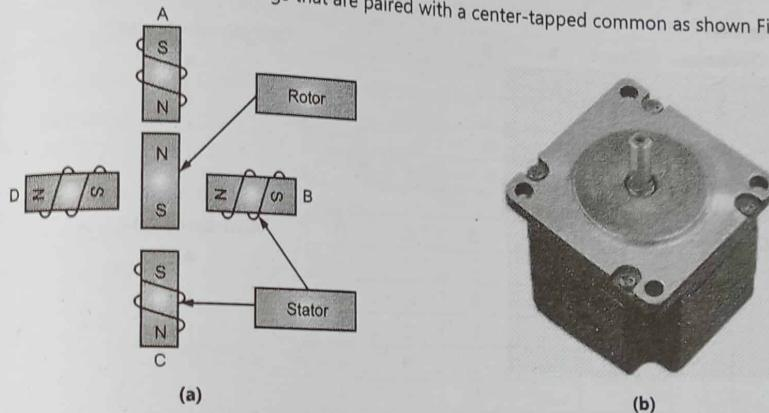

Fig. 4.14: Stepper motor
- Stepper motor have a permanent magnet rotor (called as shaft) surrounded by a stator as shown in Fig. 4.14.
- It has 4 stator windings that are paired with a center-tapped common as shown Fig. 4.14.